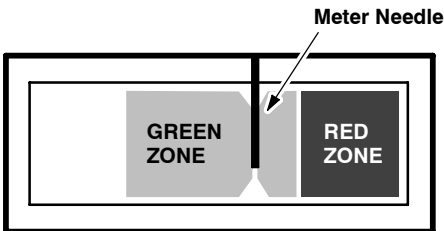

FIG. 11
4. Adjust pad pressure meter within Green Zone. Press the pad pressure switch to decrease or increase pressure. For best results adjust needle as shown (Figure 11).